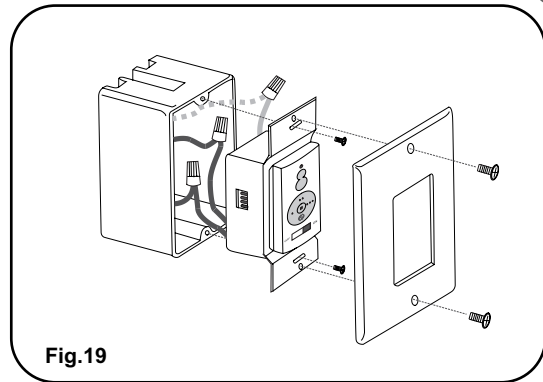

Fig.19
Step 3. Carefully tuck the wire connections inside the outlet box. The Touch Control™ System provided with your fan includes two sets of face and decorative plate color options. The wall control comes with a standard white faceplate attached. If you desire to replace it with the Ivory color faceplate, use your fingernail or a small flat screwdriver and gently pry it apart from the top or bottom of the plate. Use the screws provided to secure the wall transmitter and wall plate to the outlet box. (Fig. 19)